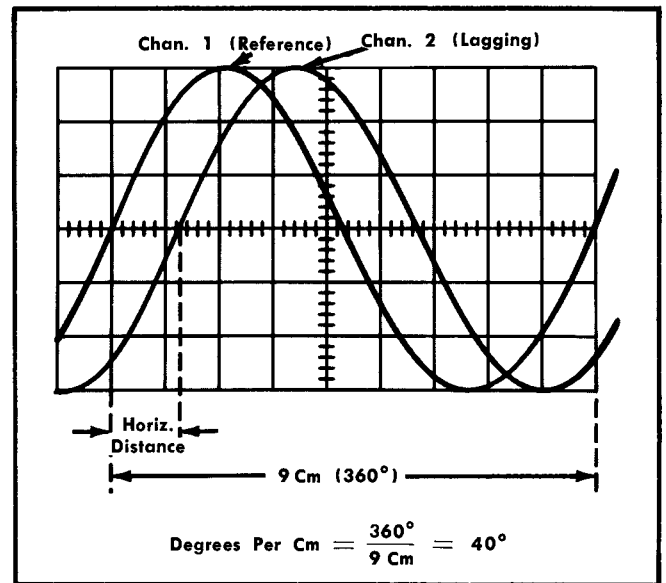

Fig. 3-4. Measuring phase shift between electrical waveforms.
point you desire. Each cm on the graticule now represents  $40^\circ$  of 1 cycle (see Fig. 3-4).
6. Measure the horizontal distance, in cm, between corresponding points on the waveforms. Note the distance and whether the Channel 2 waveform is leading or lagging (see Fig. 3-4).